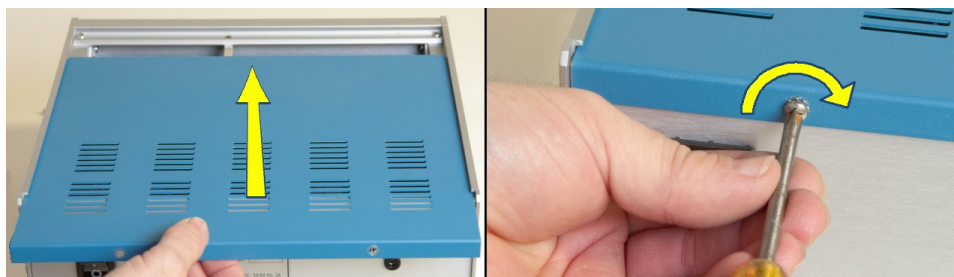

Figure 2-6. Installation of the MSR Control Unit Cover
28. Replace the cover on the control unit (see Figure 2-6).